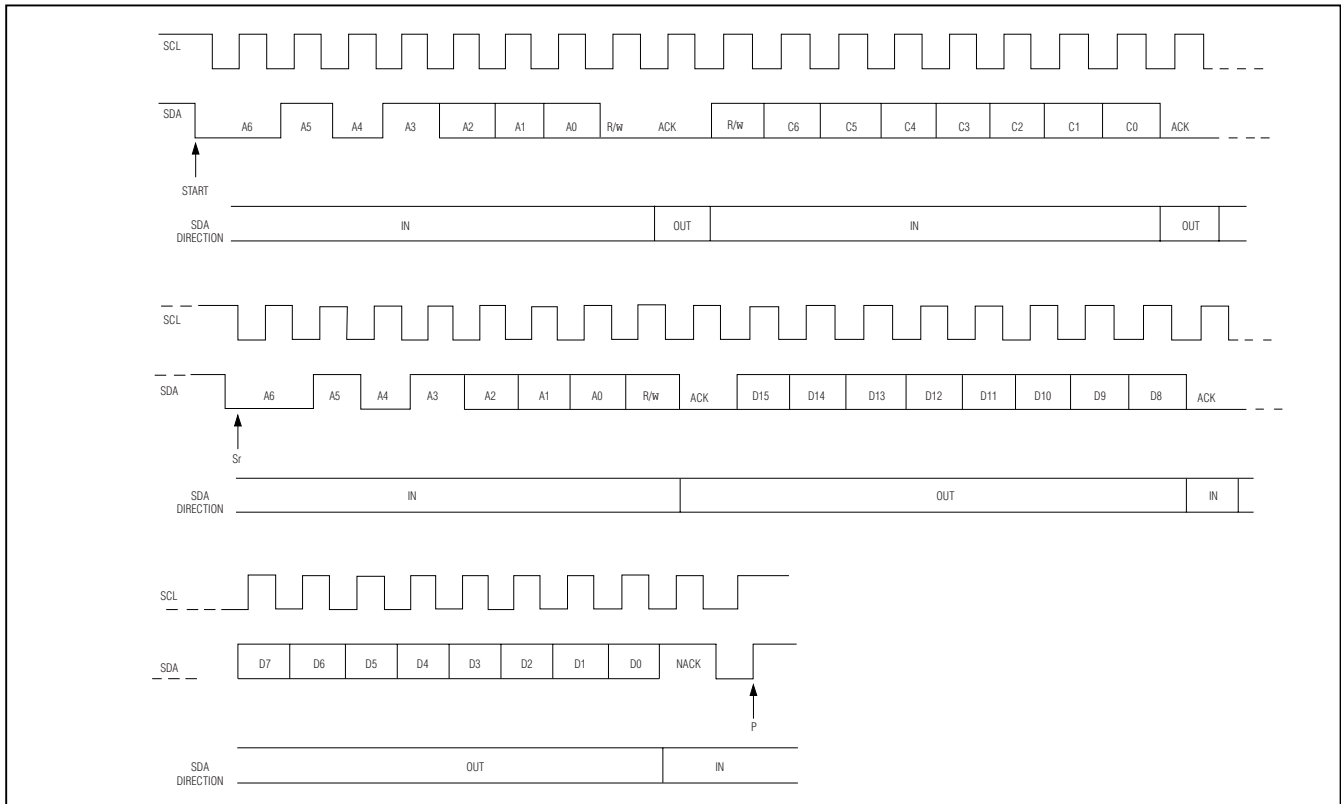

Figure 18. MAX11014/MAX11015 I²C Read Timing
Begin a read cycle by issuing a START condition followed by writing a 7-bit address (Figure 18) and a read bit ($R/\overline{W} = 1$). After writing the 8th bit, the MAX11014/MAX11015 (the slave) issue an acknowledge signal by pulling SDA low for one clock cycle.
Begin a default read cycle by writing the slave address byte followed by an acknowledge bit. Read out the next 2 data bytes, with acknowledge bits from the master to the slave following each byte. Continue to acknowledge the data by sending acknowledge (A) signals. After reading the final byte, the master should send a not-acknowledge (N) followed by a stop signal. The default read cycle reads out the data from the register (located in Table 2) of the previously assigned command byte. See Figure 18. This default read feature is useful for 2-wire reads to maximize the data throughput without having the overhead of setting the slave address and command byte each time.